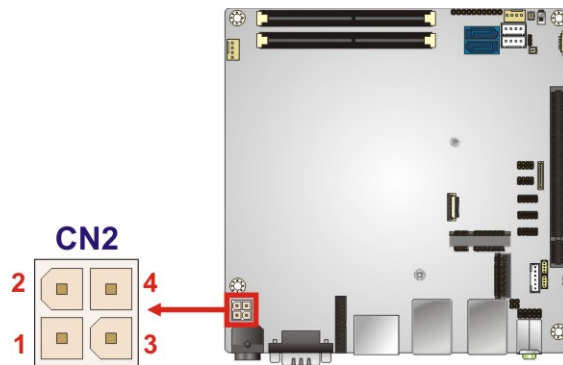

Figure 3-15: Internal Power Connector Pinout Location
- CN Location:** See **Figure 3-15**